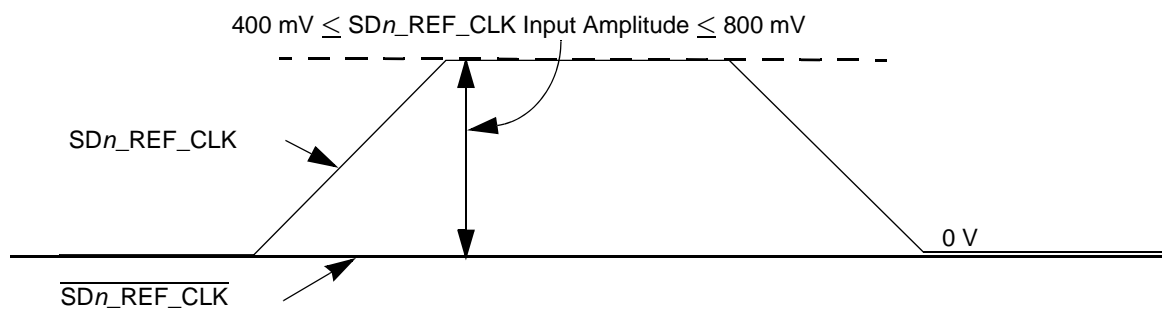

Figure 47. Single-Ended Reference Clock Input DC Requirements
- The SD_n_REF_CLK input average voltage must be between 200 and 400 mV. Figure 47 shows the SerDes reference clock input requirement for single-ended signaling mode.